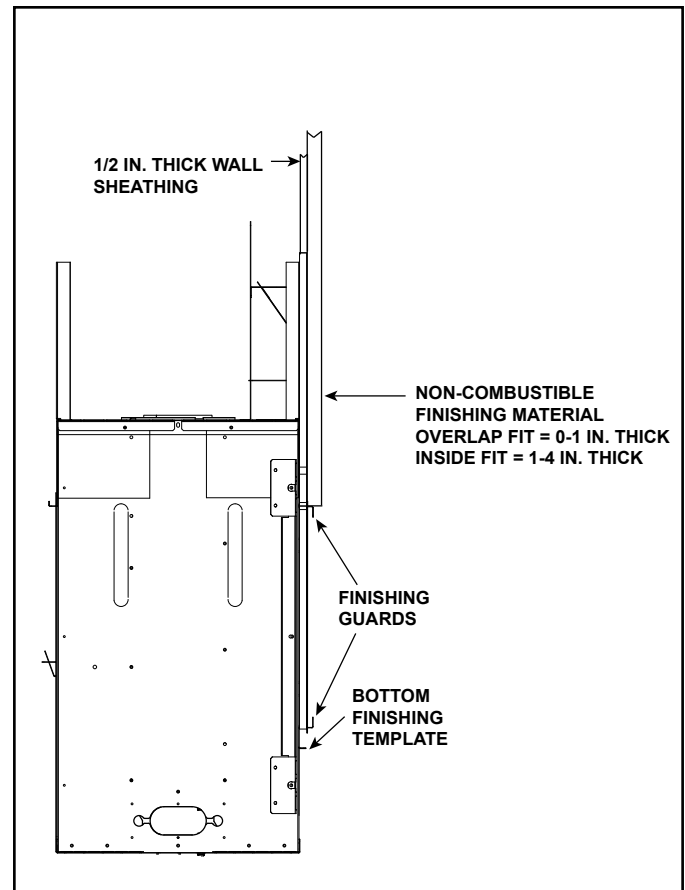
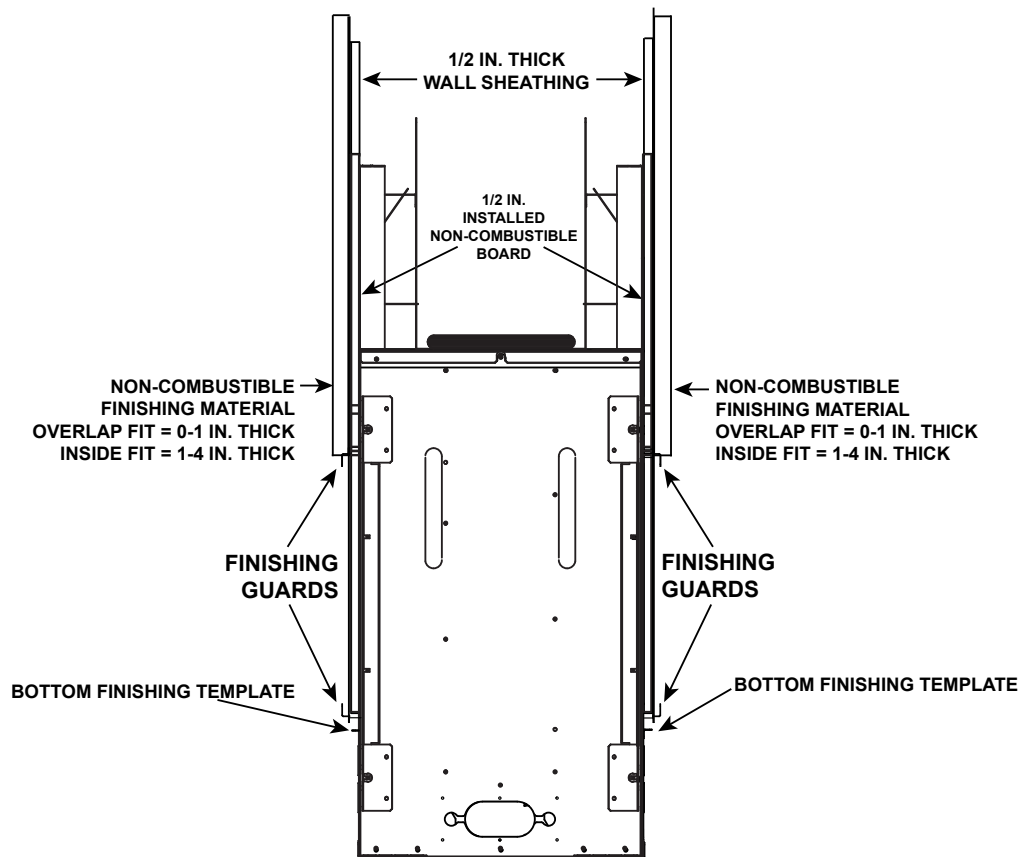

Figure 10.2 Finishing and Facing Materials - Single-Sided Models
Figure 10.3 Finishing Materials - See-Through Models
Decorative facing material thickness is measured from the face of the installed non-combustible board. See Figure 10.2 and Figure 10.3.
The fronts for this appliance are compatible with non-combustible materials. See Figure 10.2 and Figure 10.3.
Installation of finishing materials can be accomplished by either the “overlap” or “inside-fit” method, depending on what type of decorative front is to be installed. See Figure 10.2 and 10.3. For an overlap fit option with the Echelon, the Picture Frame Front (PFF) is available. The Clean Face Trim Front (CFT) can be either an inside fit or an overlap fit. See Table 1.
- 1. Verify that factory-installed finishing guards are installed to ensure finishing material does not extend into the fireplace opening. See Figure 10.2 and 10.3.
1. Verify that factory-installed finishing guards are installed to ensure finishing material does not extend into the fireplace opening. See Figure 10.2 and Figure 10.3.